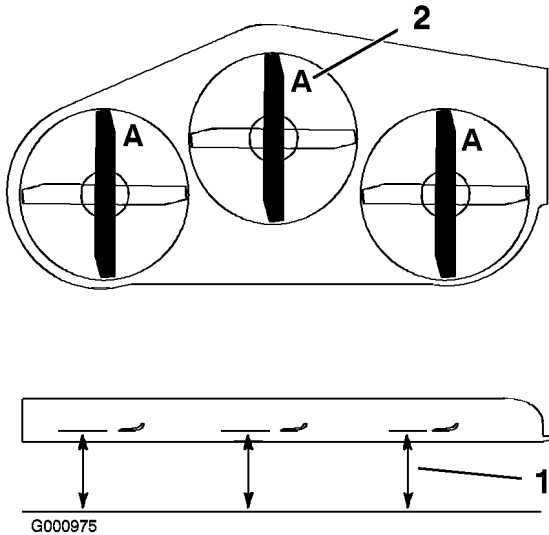

Figure 74
3. Rotate the blades until the ends face forward and backward (Figure 74). Measure from a level surface to the cutting edge, position **A**, of the blades (Figure 74). Note this dimension.